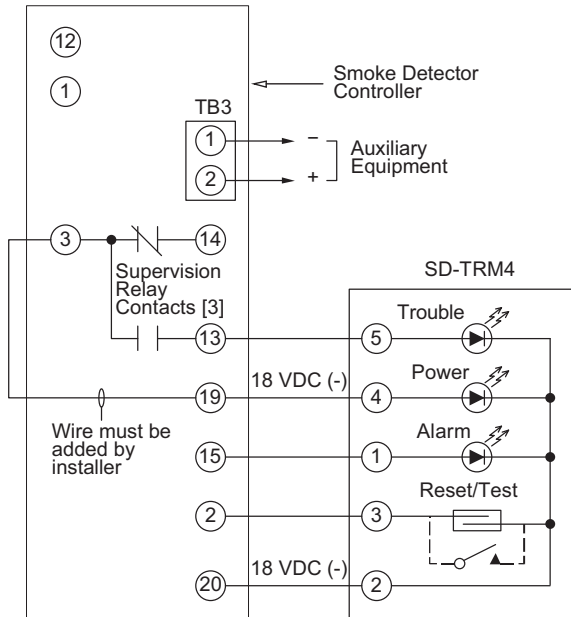

Fig. 54 — Remote Test/Reset Station Connections
The test/reset station dirty sensor test checks the test/reset station's ability to initiate a sensor dirty test and indicate the results. It must be wired to the controller as shown in Fig. 54 and configured to operate the controller's supervision relay. For more information, see "Dirty Sensor Test" on page 41.
1. Verify that the remote test/station is wired as shown in Fig. 54. Repair or replace loose or missing wiring.